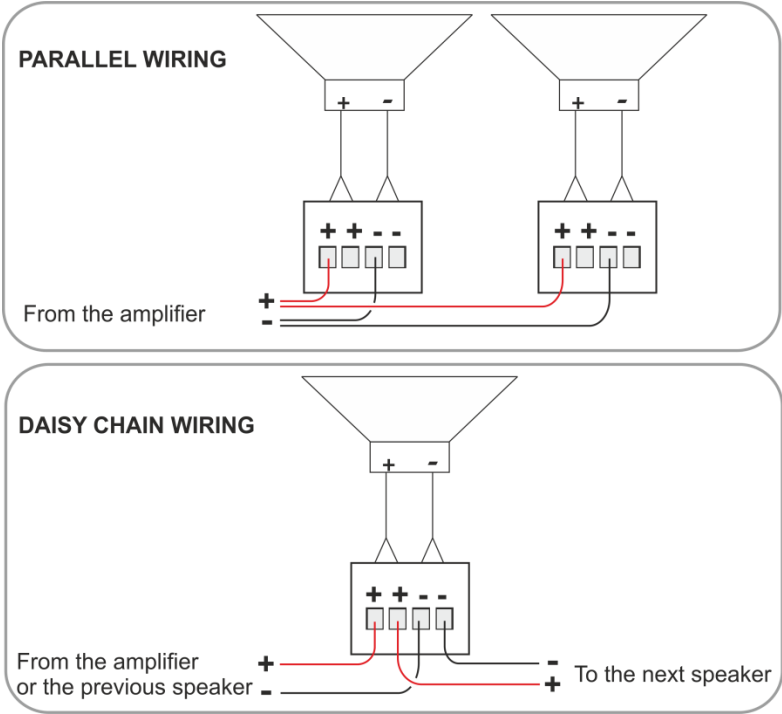

Figure 3: Yarden 8-CH Schematic Diagram
Figure 3 shows a schematic diagram of the **Yarden 8-CH**:
- **Wiring in parallel:** connect the amplifier directly to each of the speakers. When one input connector is removed, subsequent speakers will remain connected (see Figure 3)
- **Daisy-chaining:** connect the wire pair (+ and -) of the speaker to the subsequent speaker + and -. When one input connector is removed, subsequent speakers will be disconnected (see Figure 3)